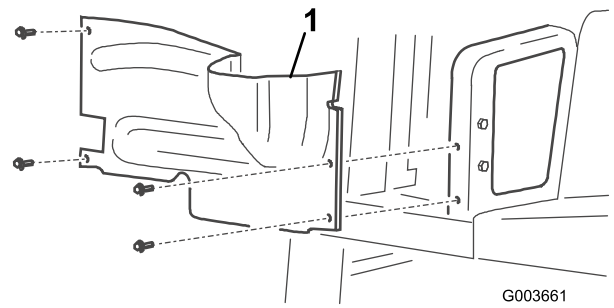

Figure 2
4. Remove the 4 bolts securing the right hand wheel shroud to the frame and remove the shroud (Figure 2).